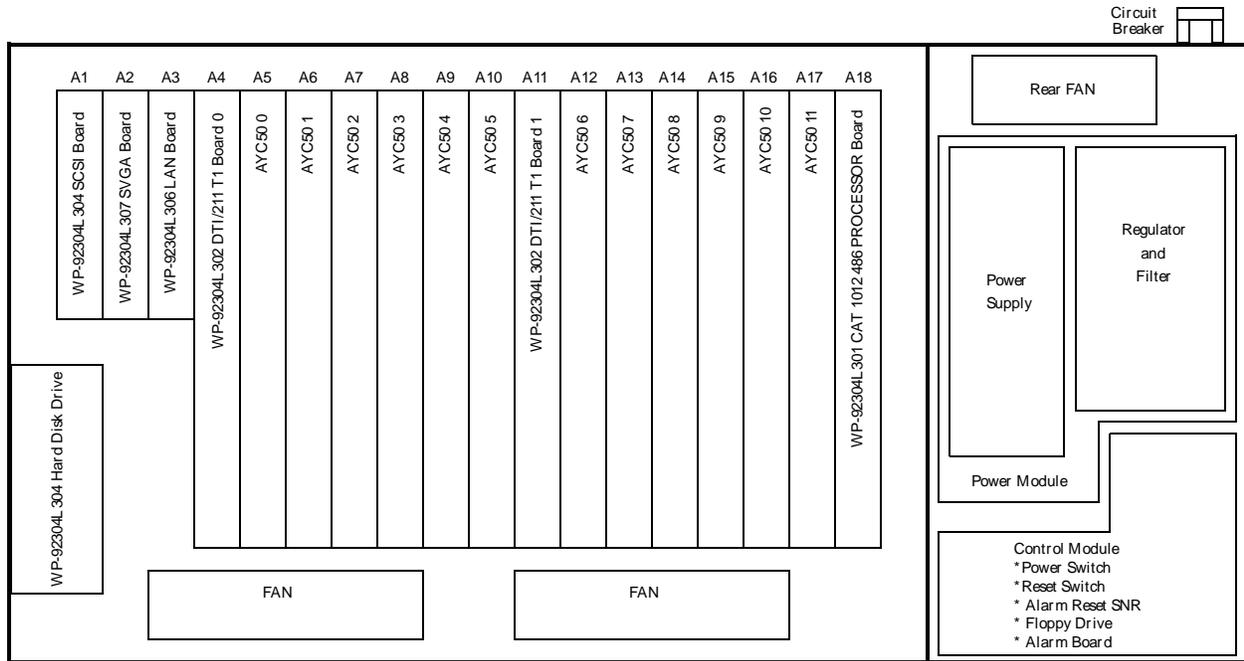

Figure 14. CDSU-I (Top View)
- CDSU-I (Top View) (Figure 14)